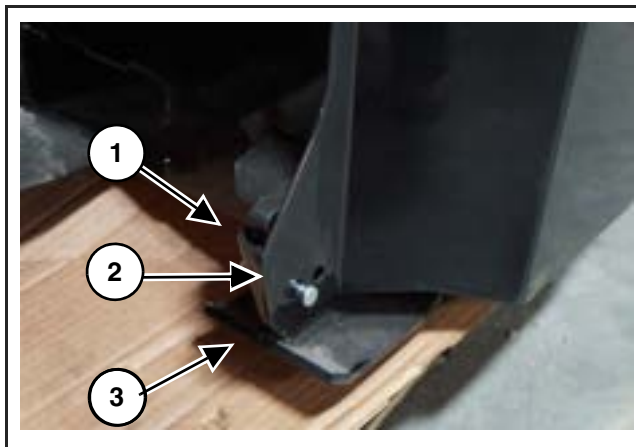

Figure 12
5. Remove the retaining pin (Item 1), pin (Item 2) and the skid pad (Item 3) [Figure 12].